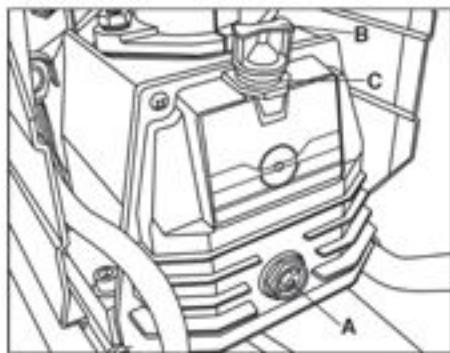

FIGURE 8
To change oil, oil must be drained from the crankcase by removing oil sight glass (A) Fig. 8. Drain oil into a small receptacle and replace oil sight glass. To fill the crank case with oil, first unscrew and remove oil breather cap (B), pour **approximately 300ml of air compressor oil (SAE 10W30 or SAE 10W20 non detergent oil)** into crankcase oil opening (C) until the oil level reaches the center red dot on the oil sight glass. Retighten oil breather cap (B).